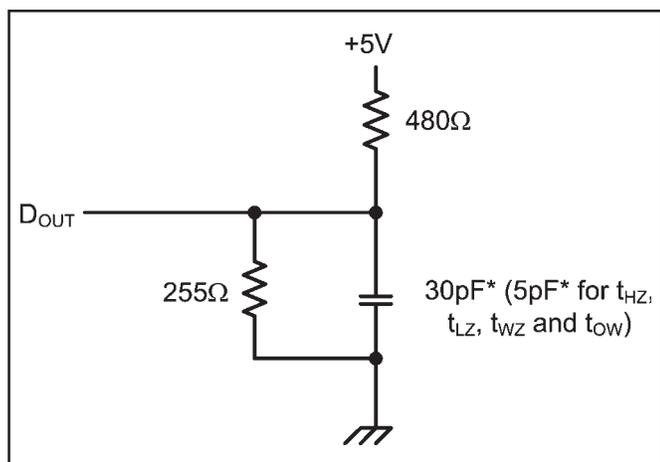

Figure 1. Output Load
- 7. Transition is measured $\pm 200mV$ from steady state voltage prior to change with specified loading in Figure 1. This parameter is sampled and not 100% tested.
- Transition is measured $\pm 200mV$ from steady state voltage prior to change with specified loading in Figure 1. This parameter is sampled and not 100% tested.
Output Load	See Figures 1 and 2